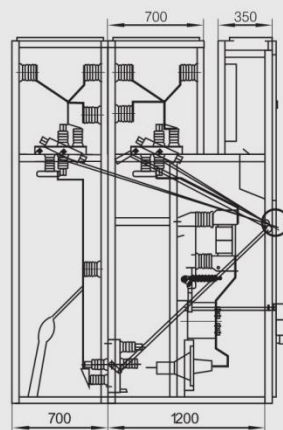

Fig. 3 XGN-12(Z)
- Product overall dimensions and structure drawing (see Figure 1, Figure 2, Figure 3)